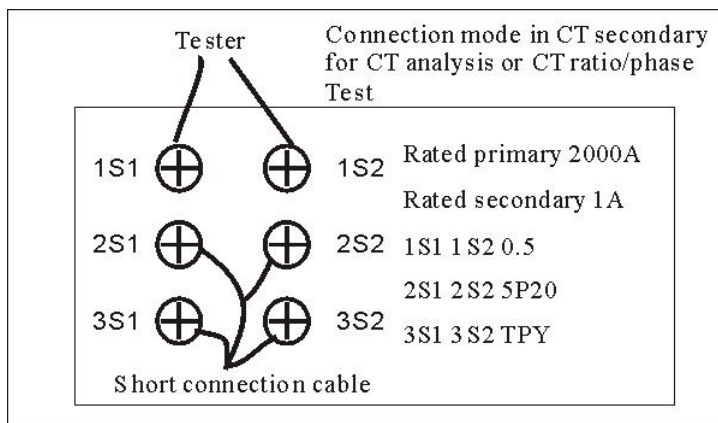

Figure 3.4.1 Short connection for CT analysis and ratio/phase test
**CAUTION:** Please short connect other non-test secondary windings for CT that have multiple secondary windings while the rated primary and secondary current are the same in CT analysis or ratio test. For example one sample CT which have three secondary windings as figure 3.4.1. When the winding 0.5 class is being tested please short connect the 10p and TPY windings as figure 3.4.1